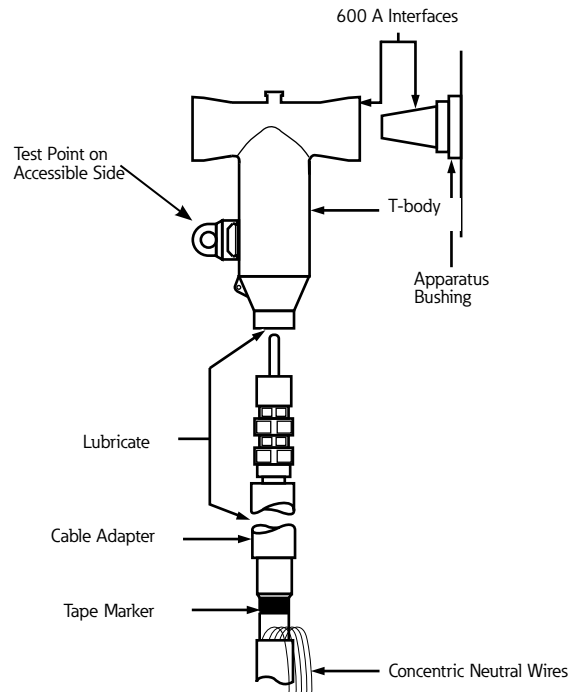

Figure 24. Line illustration of BOL-T T-body installation.
- Without moving the cable adapter, slide T-body onto cable adapter until compression connector eye is centered in 600 A interfaces. Refer to Figure 24.